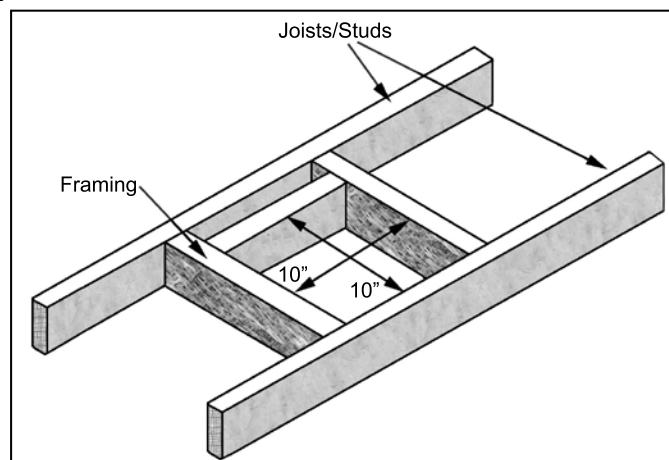
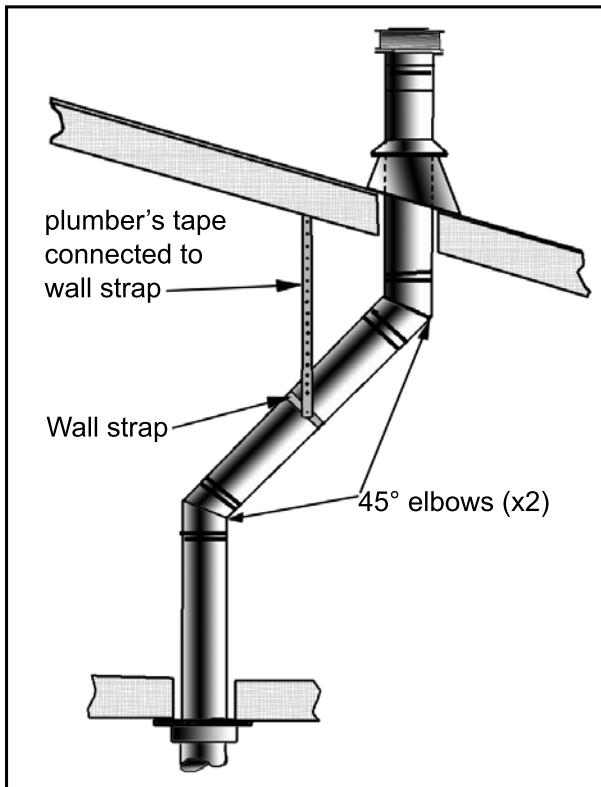
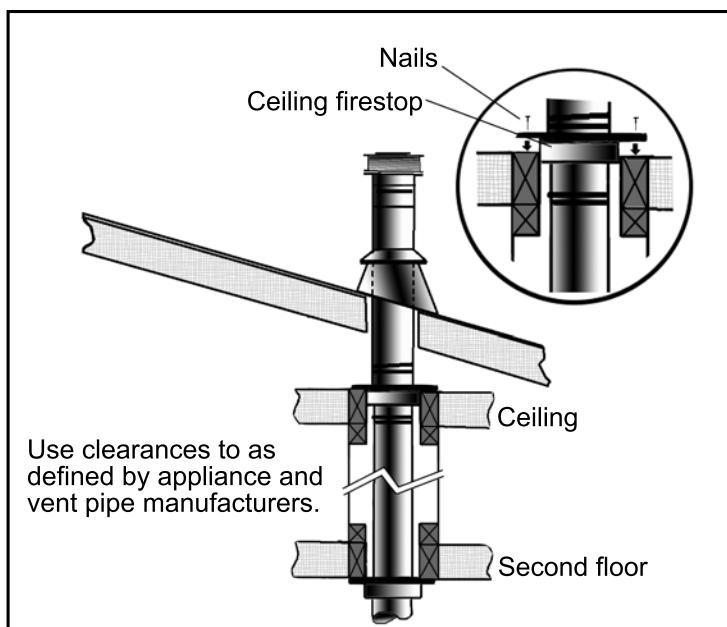

Figure 29. Vent Framing Through Wall/Ceiling
Figure 35: Use of Wall Straps.
Figure 36: Multi-Story Vent Pipe Installation.
4. Frame the hole as shown in Figure 29.
5. Trim the wall thimble to match the wall thickness as necessary. Install the wall thimble and secure it to the inner wall frame using four (4) 1 1/2" wood screws. If a wall is greater than 8" (203mm) in depth, the clearance above the flex must be 4 3/8" (111mm)
A 10" (254 mm) x 10" (254 mm) frame (see Figure 29) will assure the proper support and spacing for the vent pipe as it passes through the wall. Installations in Canada require that a wall thimble be used for passing through walls and ceilings. All sealing and vapour barriers must comply with local building codes.
Step 3. With the pipe in the correct position and attached to the fireplace, mark the wall for a 10 inches (25.4 cm) x 10 inches (25.4 cm) square hole (see Figure 29). The center of the hole should match the center line of the horizontal pipe. Cut and frame the hole in the exterior wall where the vent will be terminated. If the wall being penetrated is made of a non-combustible material (i.e. masonry or concrete) a 7 inches (17.8 cm) hole is acceptable.
Step 3. To install the Round Support Box/Wall Thimble in a flat ceiling, cut a 10 inch (25.4 cm) square hole in the ceiling, centered in the hole drilled in Step 2. Frame the hole as shown in Figure 29.
- (1) If an offset is necessary in the attic to avoid obstructions, it is important to support the vent pipe every 3 feet (914 mm), to avoid excessive stress on the elbows, and possible separation. Wall straps are available for this purpose (see Figure 35).
- (2) When ever possible, use 45° degree elbows instead of 90° degree elbows. The 45° degree elbow offers less restriction to the flow of flue gases and intake air.
- (3) For multi story installations; a ceiling firestop is required at the second floor, and any subsequent floors (see Figure 29). The opening should be framed to 10" (254 mm) x 10" (254 mm) inside dimensions, in the same manner as shown in Figure 36.